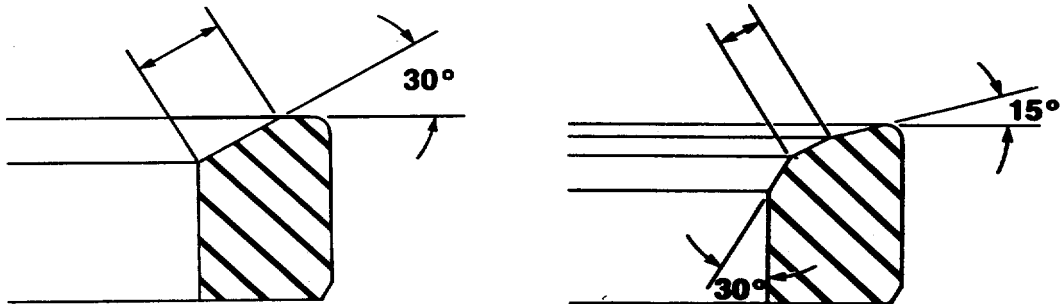

FIGURE 4-13. Valve Seat Grinding Angles.
(21) Grind the Valve Seat.
- (a) Use valve seat grinding machine and valve guide arbor set to grind the valve seat insert to the angle shown in FIG. 4-13.